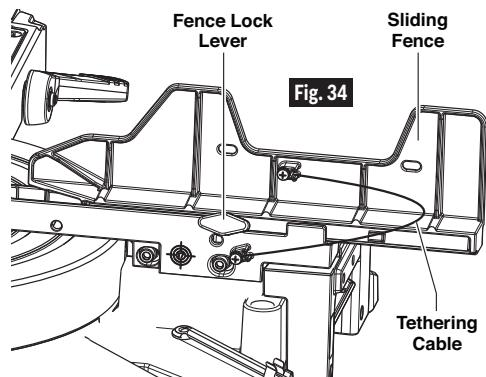

Fig. 34
1. Loosen the sliding fence lock knob counter clockwise $\frac{1}{2}$ turn to loosen fence (see fig. 34).
1. Loosen the sliding fence lock knob counter clockwise 4 rotations, see fig. 34.